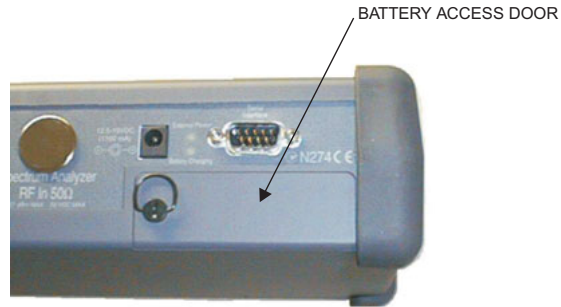

Figure 6. Battery Access Door Location
1. With the Site Master standing upright on a stable surface, locate the battery access door (Figure 6).